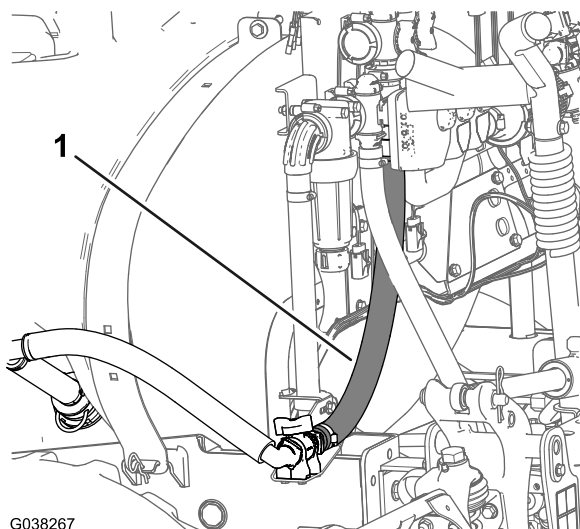

Figure 67
2. Route the hose to the agitation throttle valve (Figure 67).
3. Assemble the quick-connect fitting (straight barbed) of the agitation supply hose onto the quick coupling of the agitation throttle valve with the retainer that is supplied with the hose (Figure 67).